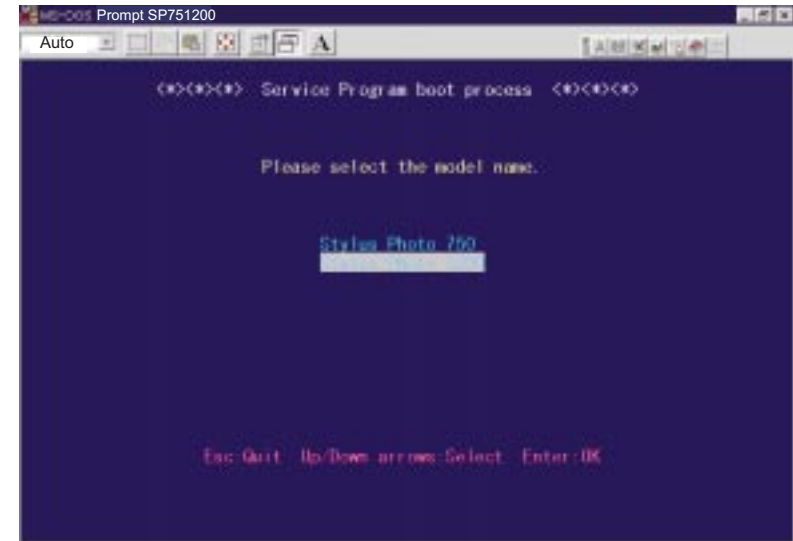

Figure 5-2. First Screen of Adjustment Program
4. Run the program on the DOS Prompt of the Windows. The following screen (See Figure 5-2) will appear.